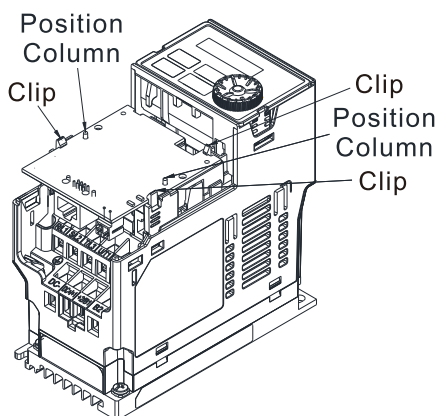

Figure 8-23
5. Assembling the option card: As shown in the Figure 8-23, have the terminal block of the adapter/ option facing up, aim the two holes of the option card to the position column and press downward so that the three clips are engage the option card.